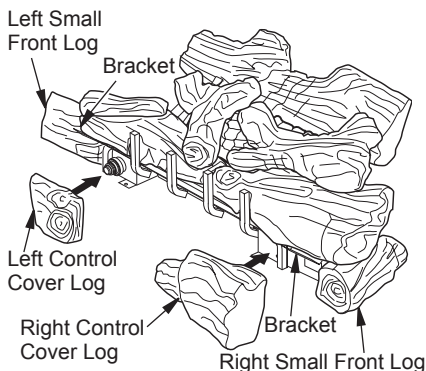

Figure 21 - Installing LBG36-SM Model Control Cover Logs
7. For LBG36-SM, the front right and left logs are longer and are supported with brackets on each end (see Figure 21). Place left and right small front logs under left bracket and beside right bracket.